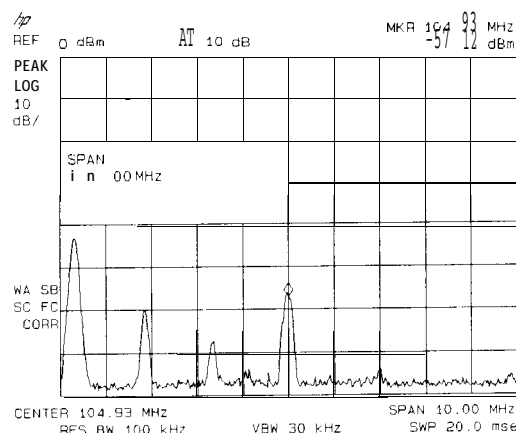

Figure 3-16. Low-Level Signal
5. Reduce the span to 10 MHz. Press **SPAN**, and then use the step-down key (**⇩**). See Figure 3-16.